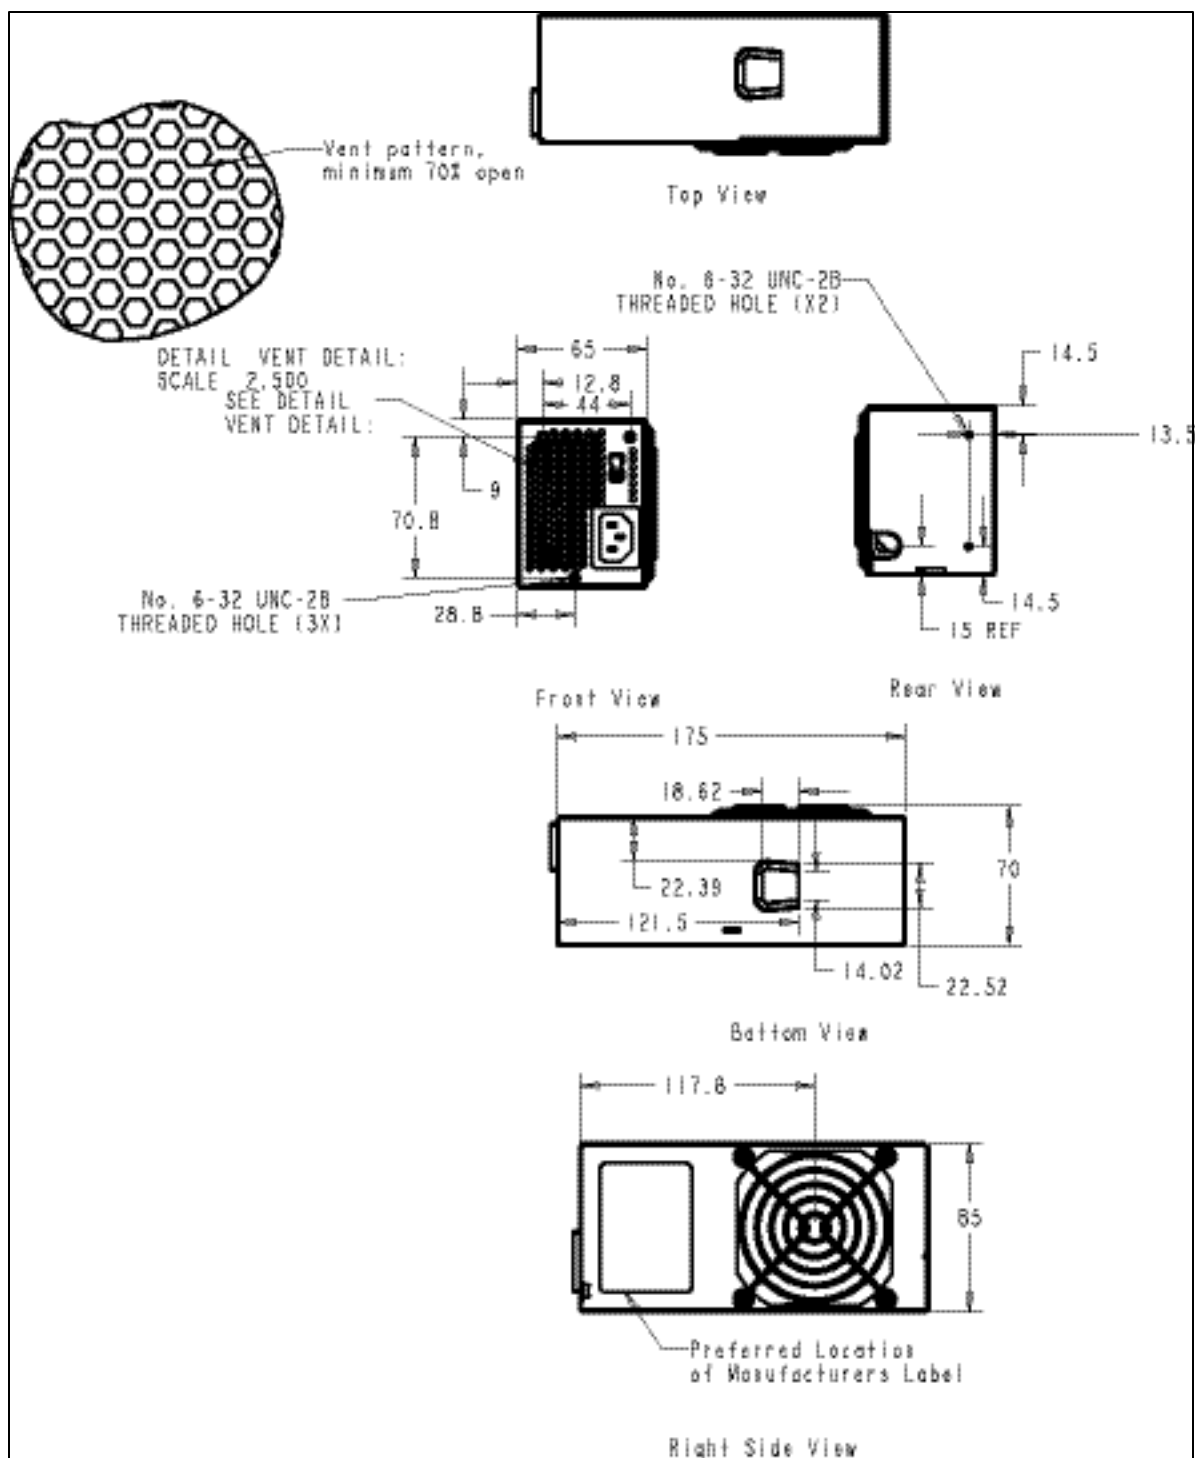
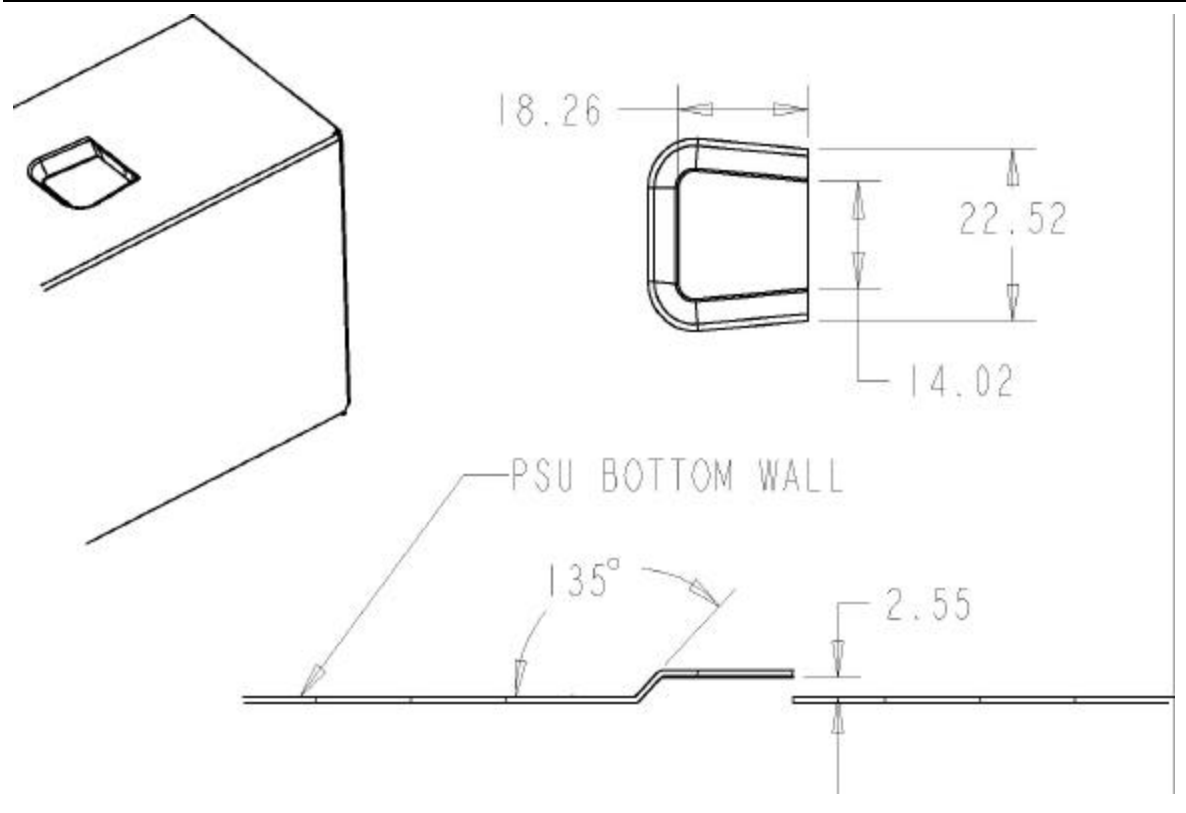
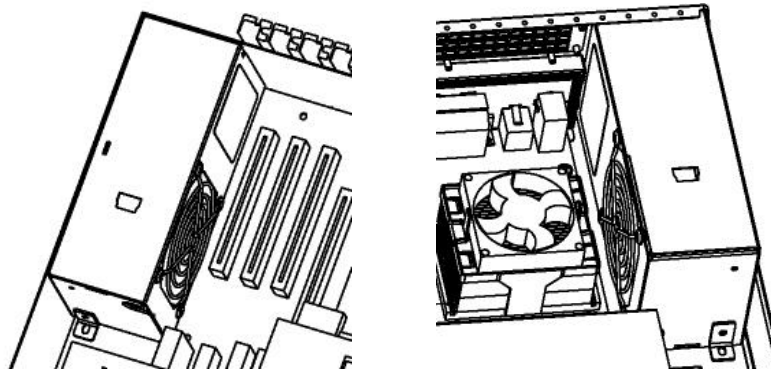

Figure 8. Power Supply Dimensions and Recommended Feature Placements (not to scale)
Figure 9. Power Supply Mounting Slot Detail
Figure 10. Fan Right and Fan Left Orientations of Power Supply in a Chassis
The power supply shall be enclosed and meet the physical outline shown in Figure 8, as applicable.
The TFX12V mechanical design provides two options for mounting in a system chassis. The unit can be mounted using one of the mounting holes on the front end (non-vented end) or a chassis feature can be designed to engage the slot provided in the bottom of the supply. In order to accommodate different system chassis layouts, the TFX12V power supply is also designed to mount in two orientations (fan left and fan right) as shown in Figure 10. A mounting hole and slot should be provided for each orientation as shown in Figure 8. Details of a suggested geometry for the mounting slot are shown in Figure 9.
**Fan location/direction:** In general, exhausting air from the system chassis enclosure via a power supply fan is the preferred, most common, and most widely applicable system-level airflow solution. The location of the fan can have a large effect on how efficiently this air is exhausted. The location of the fan shown in Figure 8 allows the fan to be located close to the processor cooling solution when used in the common fan left configuration shown in Figure 10. This close proximity of the fan will aid in the evacuation of heated air and helps keep the total system cooler.
**Fan size/speed:** The TFX12V power supply has an 80 mm axial fan as shown in Figure 8. It is recommended that a thermally sensitive fan speed control circuit be used to balance system-level thermal and acoustic performance. The circuit typically senses the temperature of the secondary heat sink and/or incoming ambient air and adjusts the fan speed as necessary to keep power supply and system component temperatures within specifications. Both the power supply and system designers should be aware of the dependencies of the power supply and system temperatures on the control circuit response curve and fan size and should specify them carefully.
**Venting:** In general, more venting in a power supply case yields reduced airflow impedance and improved cooling performance. Intake and exhaust vents should be as large, open, and unobstructed as possible so as not to impede airflow or generate excessive acoustic noise. In particular, avoid placing objects within 0.5 inches of the intake or exhaust of the fan itself. A raised wire fan grill is recommended instead of a stamped metal vent for improved airflow and reduced acoustic noise for the intake vent. Figure 8 shows the suggested TFX12V exhaust vent pattern.
- Larger openings yield decreased EMI-shielding performance. The suggested pattern in Figure 8 sufficiently shields EMI in most power supplies, but the design should always be tested as outlined in Section 6.1.